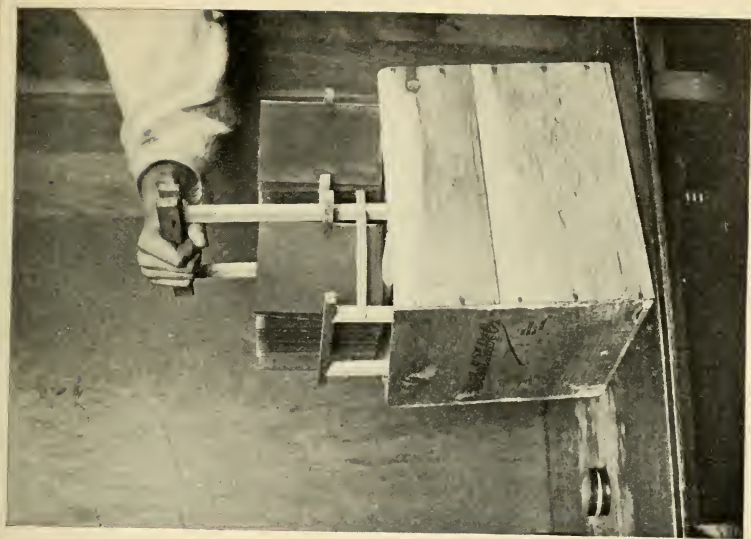

FIG. 172. A WASHING BOX AND DRYING RACK.
**A Washing-box**, after the scheme of Fig. 172, made to hold the negatives while washing them. This box will